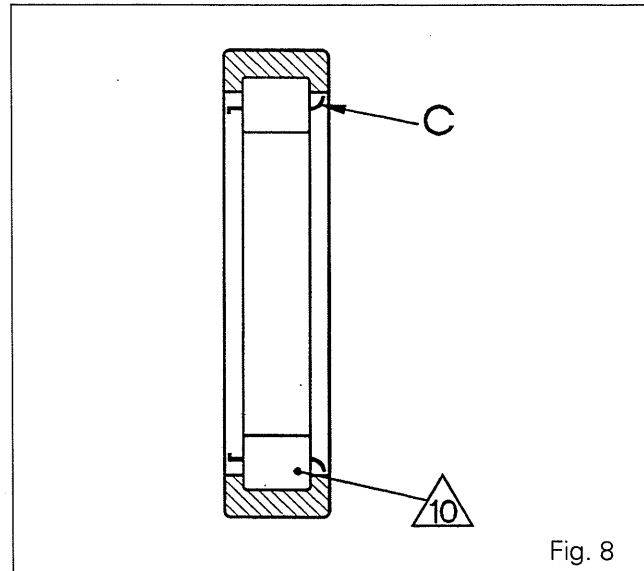

Fig. 8
50. Manually check the backlash of gear (17), and that all the gears rotate correctly.
51. Slide on layshaft roller bearing /10\, with the "C" cage (Fig. 8) facing the rear of the unit.